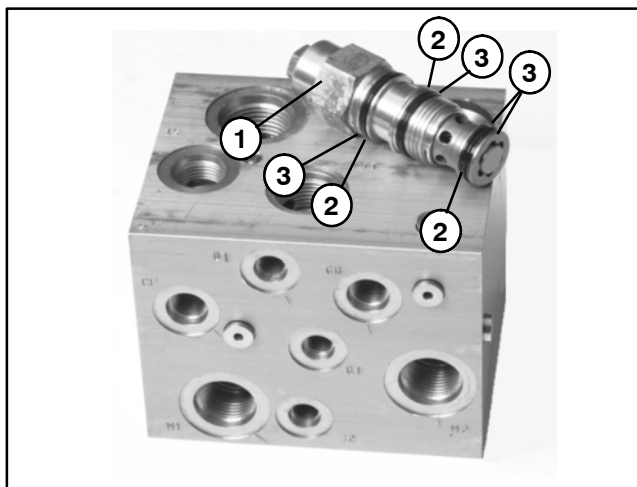

Figure 95
A. Lubricate new O-rings and backup rings of seal kit with clean hydraulic oil and install. The O-rings and backup rings must be arranged properly on the cartridge valve for proper operation and sealing (Figs. 95 and 96).